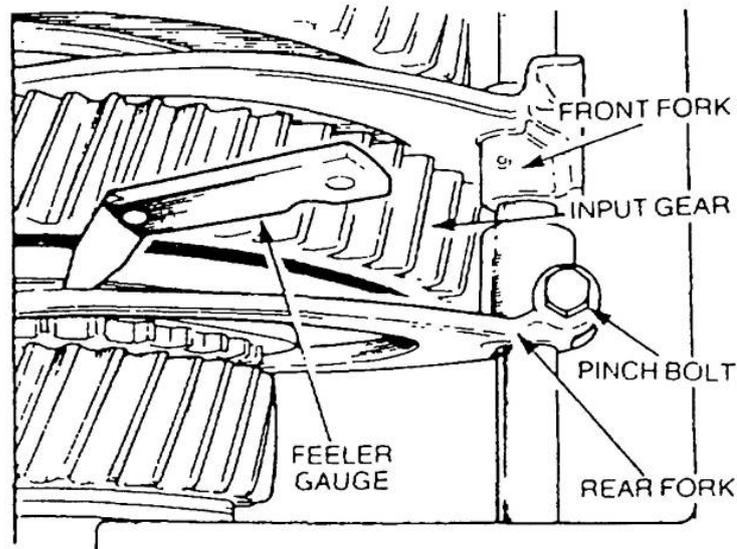

Figure 92 Selector Fork Adjustment
- c. Check that the input gear on the intermediate gear assembly is in the neutral position and the front fork is in contact with the input gear member. Adjust the rear fork position on the selector shaft to allow a clearance of 0.12 to 0.25 mm (0.005 to 0.010 in) between the front face of the rear fork and the rear face of the input gear member (Figure 92), tighten the pinch bolt securely.